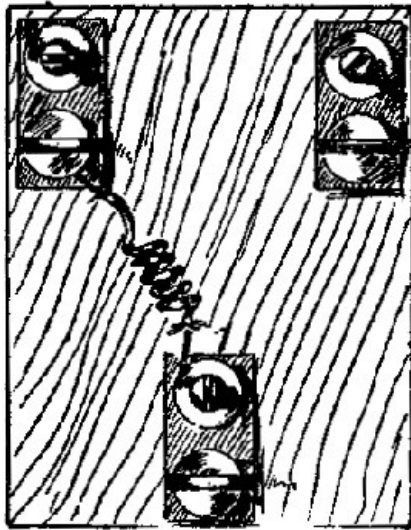

Fig. 23.
**54. Cut-Out.** Fig. 23. The main features of this are like those of App. 36. The three binding-posts are like App. 46. Instead of a band of metal to change connections, as *Q* in App. 36, a stout copper wire is used. This can be easily changed from one of the upper binding-posts to the other, thereby throwing in or cutting out any piece of apparatus joined with the upper connectors.